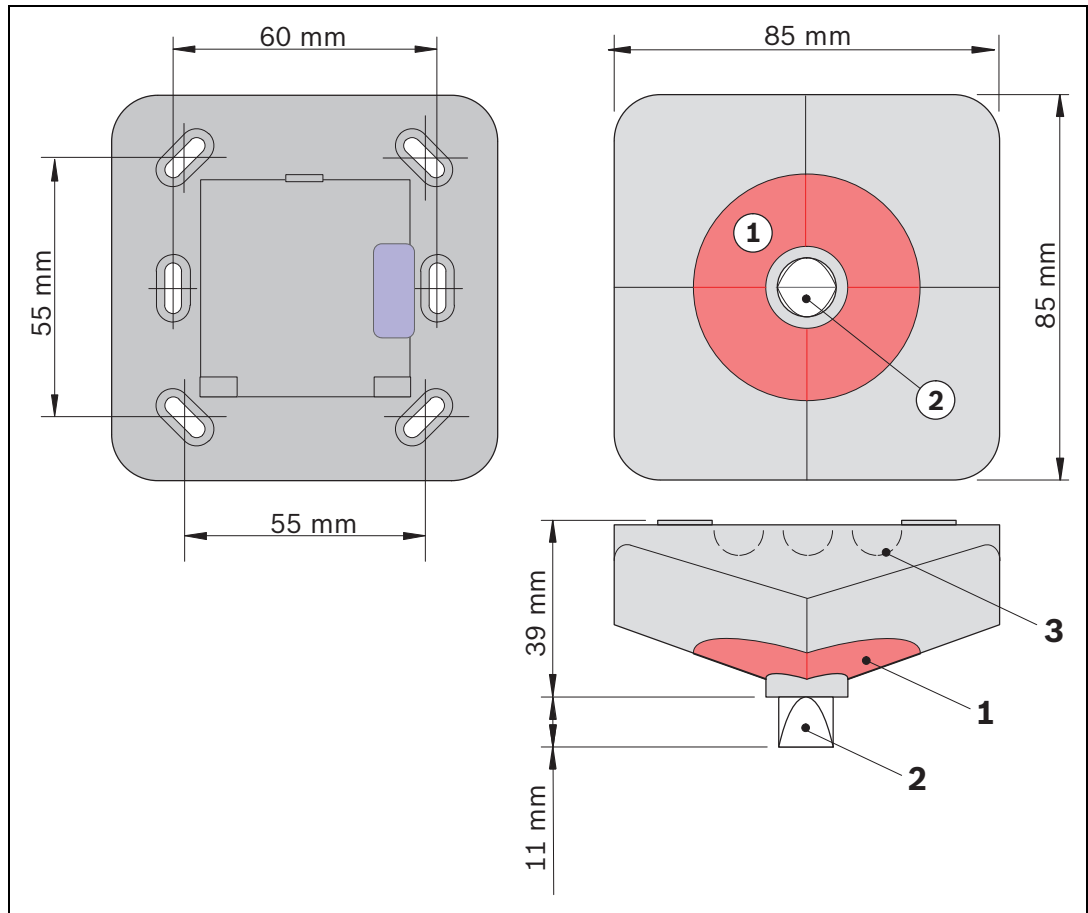

Figure 3.16 External detector alarm display MPA, dimensions
According to VdS guidelines, the external detector alarm display must be mounted so that the flat side of the prism (see *Figure 3.16 (2)*) shows towards the observer's line of sight.
For surface mounted cable entry, break out the prepared cable entry points (see *Figure 3.16.*